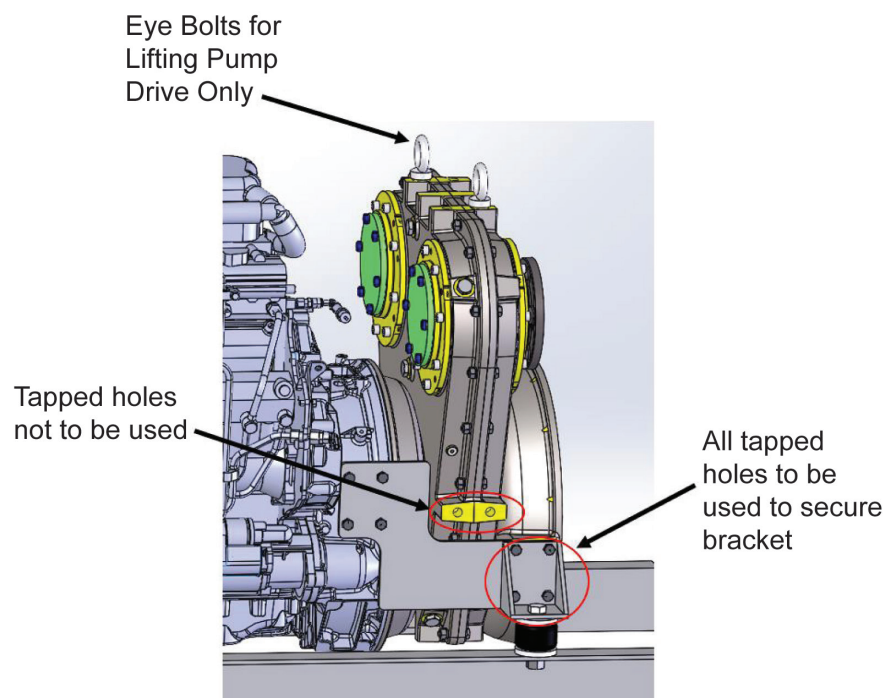

Figure 12. Hole Pattern Usage
3. Support brackets are required to secure the OUTPUT flywheel housing of the pump drive to the engine. See Figure 12.
4. Eye bolts on the pump drive should be used to lift the pump drive ONLY and not the engine. See figure 12.